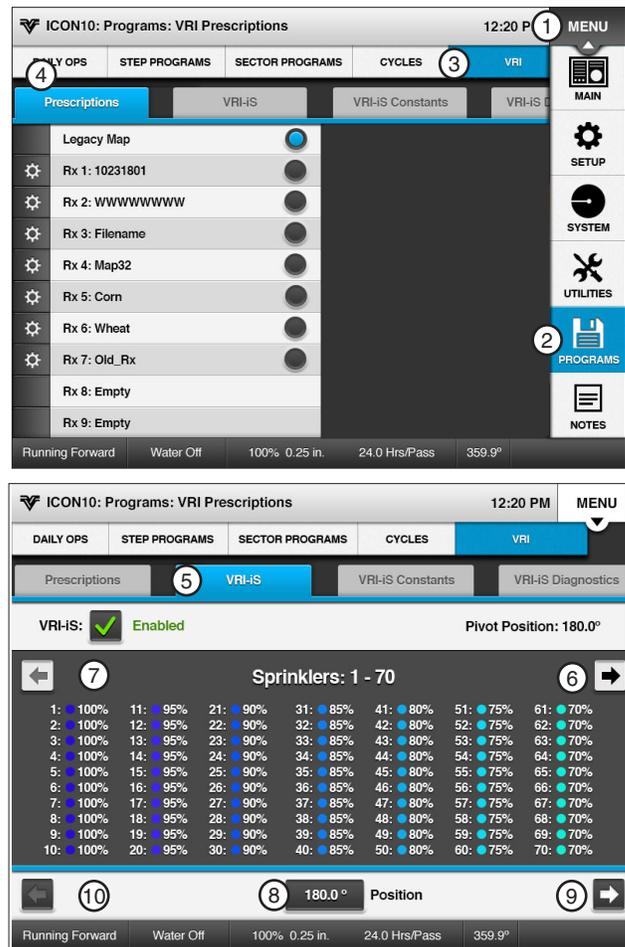

Figure 175-1 1. Menu 6. Sprinklers Next Navigation
1. Push **Menu**, **Programs VRI** and **Prescriptions** The Prescriptions screen displays. Select the desired Valley VRI prescription. Refer to Figure 175-1.